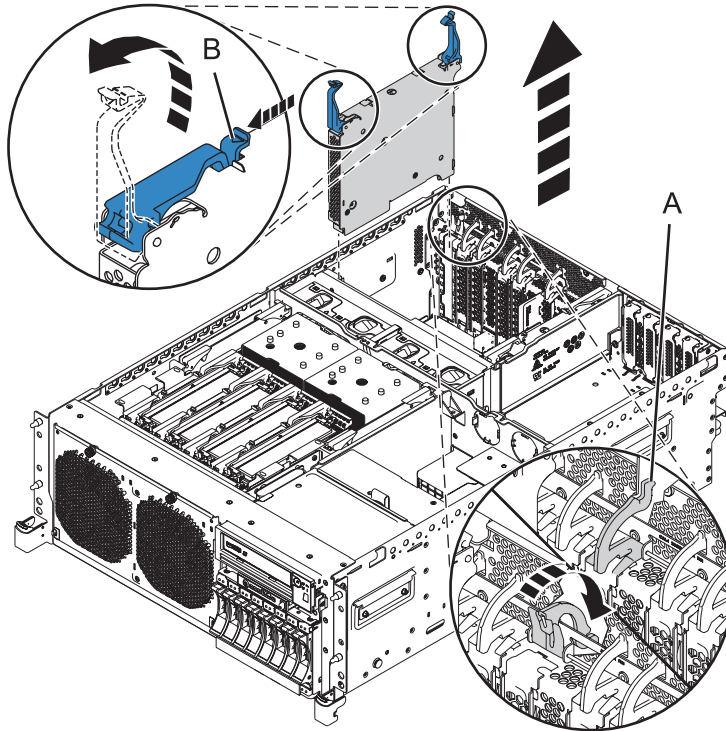
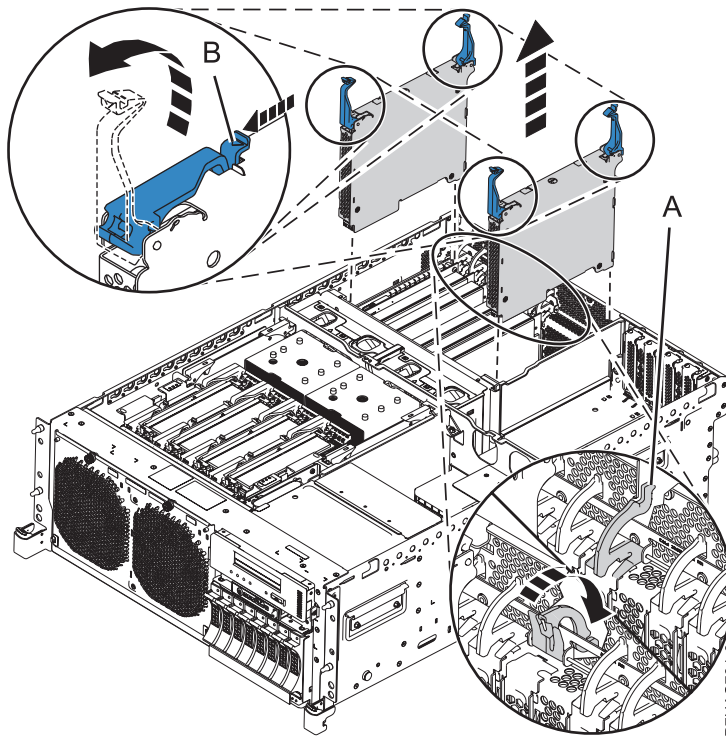

Figure 7. Removing the GX adapter from a rack-mounted 8202-E4B or 8205-E6B system
Figure 8. Removing the GX adapter (FC EJ03) from a rack-mounted 8202-E4C, 8202-E4D, 8205-E6C, or 8205-E6D system
12. With the system in the service position, remove the existing adapter assembly as shown in Figure 7 on page 10 and Figure 8 on page 10. Unlock the latch above the adapter slot (**A**) by pulling the latch toward the rear of the system.